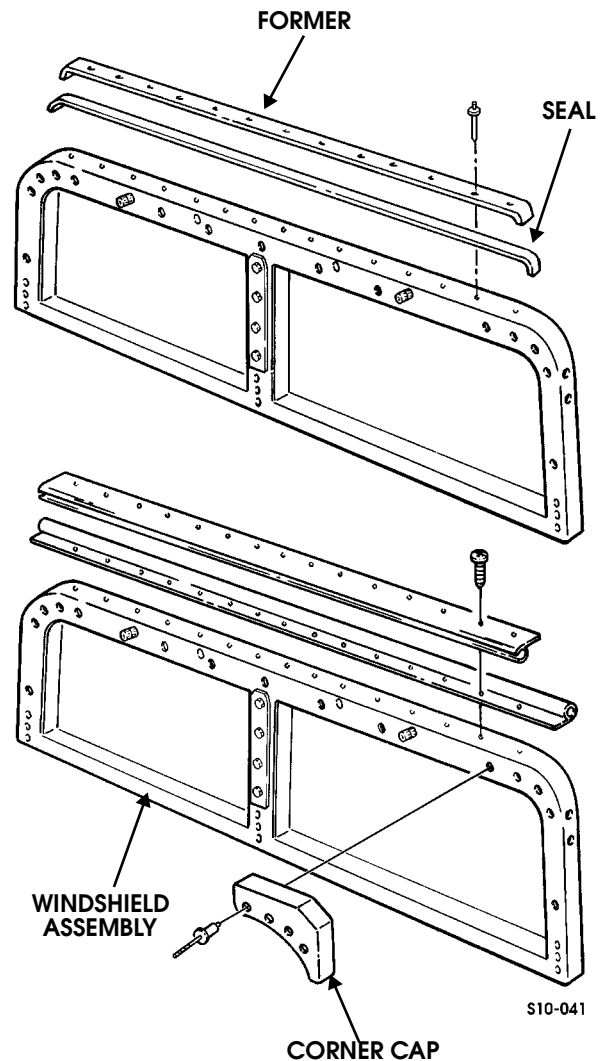

Figure 10-106: Windshield Assembly Seal Replacement
1. Remove eleven rivets, former, and seal from windshield assembly (Figure 10-106).
3. Remove thirteen rivets, former, and seal from windshield assembly (Figure 10-106).
1. Secure seal and former to windshield assembly with eleven rivets (Figure 10-106).
3. Secure seal and former to windshield assembly and secure with thirteen rivets (Figure 10-106).